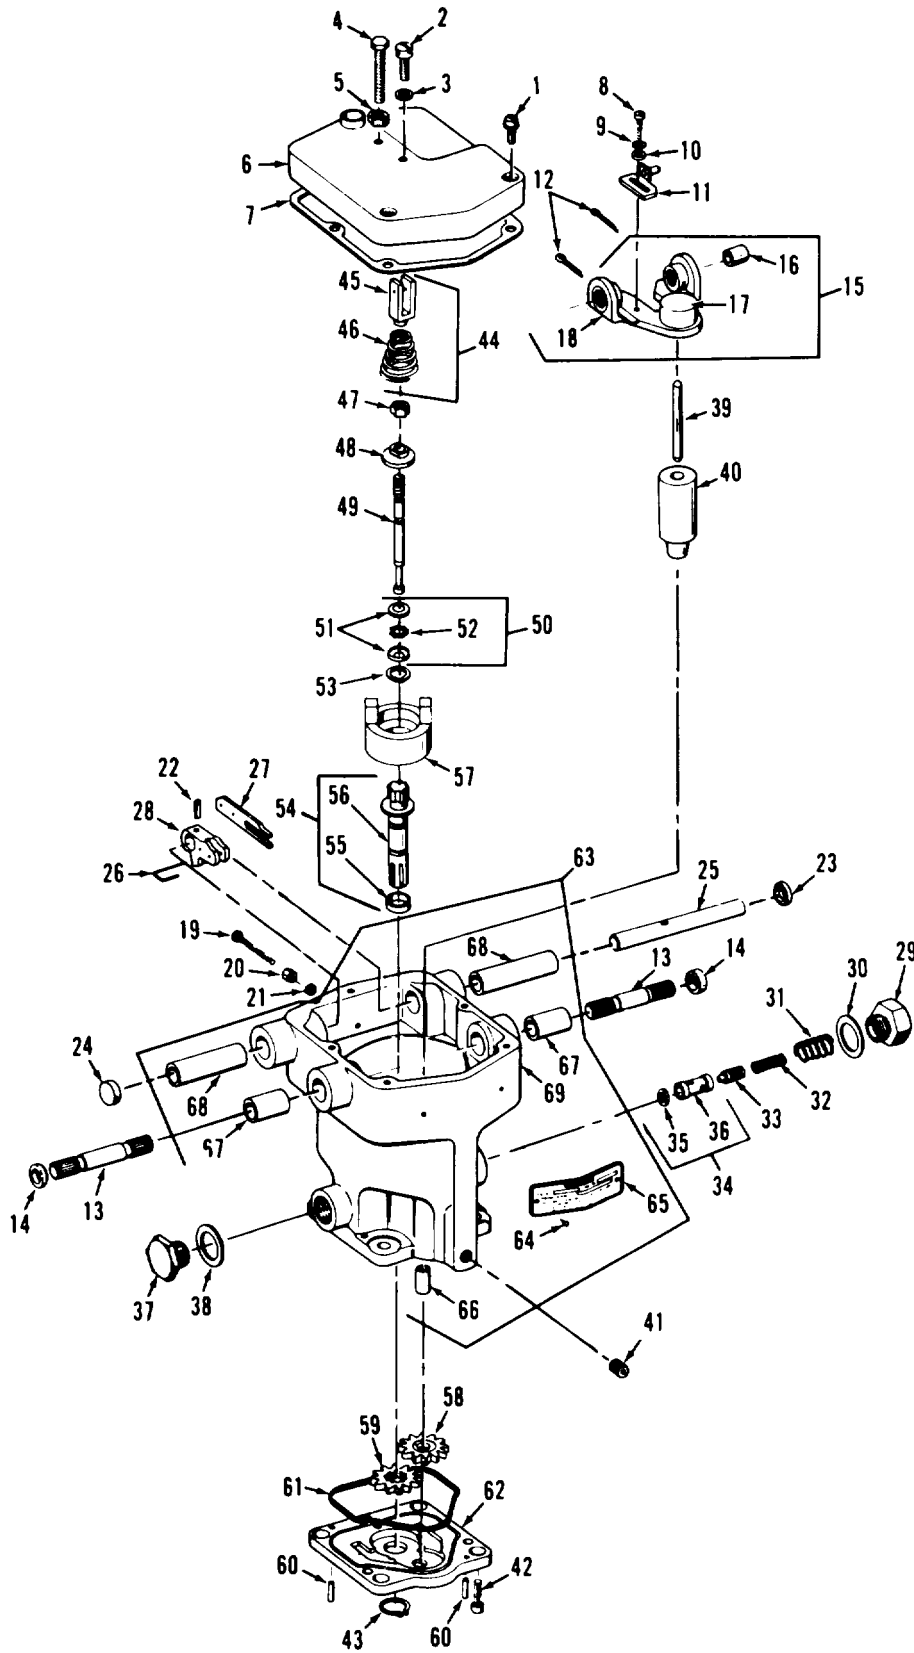
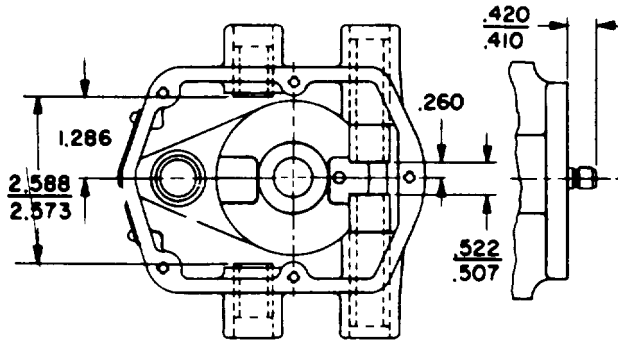

Figure 8-33. Utility governor assembly, exploded view
Figure 8-35. Dimensions for installing utility governor assembly bushings
Use extreme care when polishing the pilot valve (49, figure 8-33) control land. Leave corners sharp; broken or rounded corners on this land will ruin the valve.
(a) Power piston (40, figure 8-33) O.D.
Legend to figure 8-33:
9. Discard gaskets (7 and 61, figure 8-33).
2. Be extremely careful when polishing pilot valve (49, figure 8-33) control land. Leave the corners sharp; broken or rounded corners on this land will ruin the pilot valve.
3. If ground bottom surface of the case (69) is grooved or worn from rotation of the pump gears (58 and 59), or scratched from mishandling, it may be surface ground. Up to 1/32 inch may be removed. Lap the surface smooth on a flat plate if a surface grinder is not available.
a. UTILITY GOVERNOR, Refer to figure 8-33 and reassemble utility governor assembly in the reverse order of index numbers assigned. Pay particular attention to the following:
1. Drive dowel pins (60) out of base (62).
2. If necessary to install new bushings (67 and 68), insert a suitable support plate of exactly the correct width between the inner walls of the case (69). Press bushings (67 and 68) in with arbor press to dimensions shown in figure 8-35. Press in idler gear stud (66) to depth shown in figure 8-35.
3. After installing bushings (67 and 68, figure 8-33), line size or line ream with standard 3/8 inch diameter line reamer.
4. Place pump gears (58 and 59) in gear pockets of base (62).